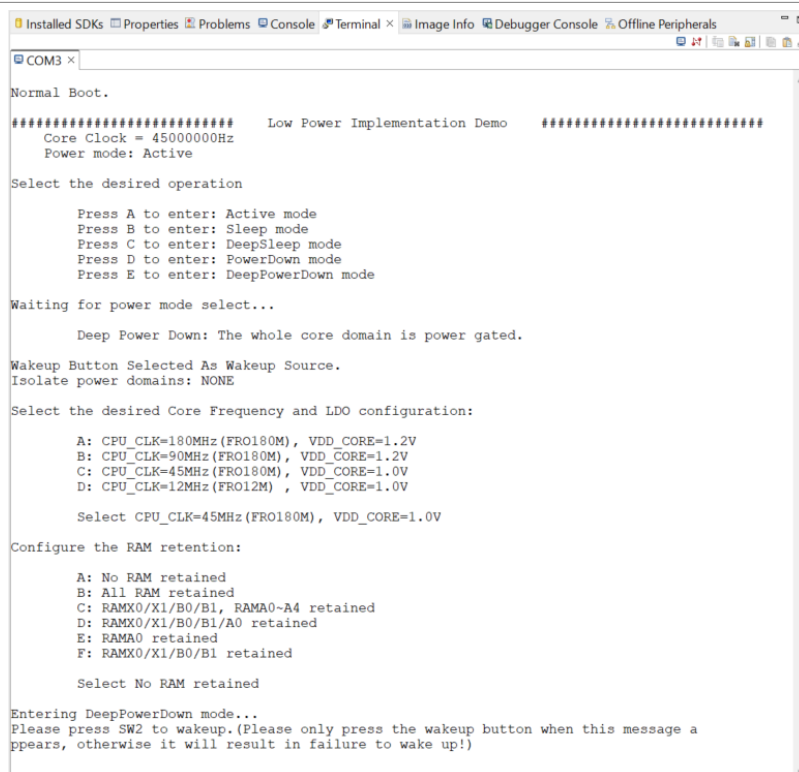

Figure 11. All prompts
4. Figure 11 shows the entire configuration process. To wake up the MCU, press the **SW2** button on FRDM-MCXA346.